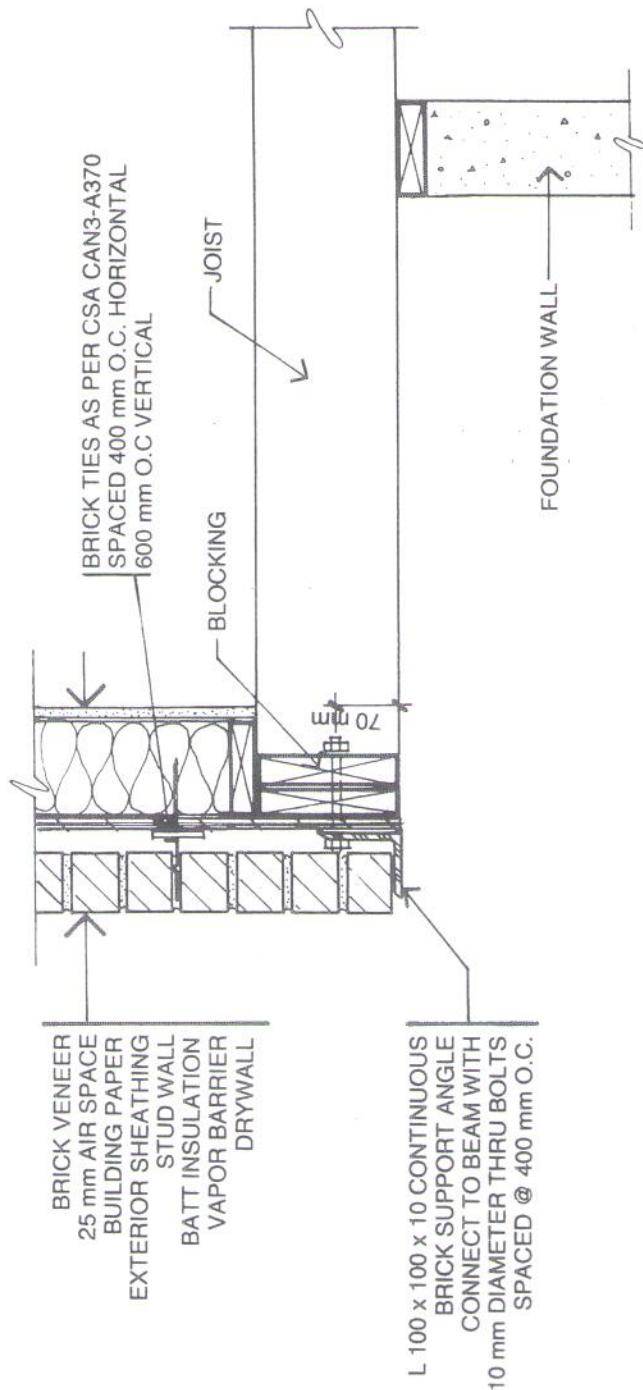

Figure 16 Section through typical brick shelf angle support detail for bay window
- Figure 16 Section through typical brick shelf angle support detail for bay window